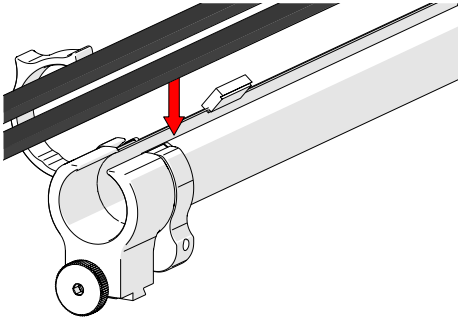

Fig. 77 - Insert cables and hoses
1. Open the zipper of the cable management. Begin at the management's dovetail mount and place the cabling in the sleeving (Fig. 77).